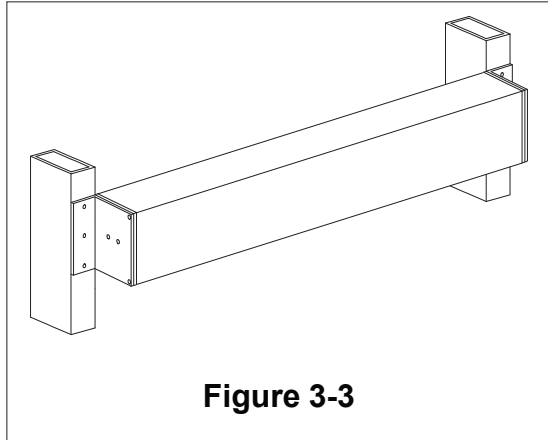

Figure 3-3
- 3d For aluminum storefront or aluminum tube frame, install the header with horizontal mounting brackets to the jams per the instructions supplied with the horizontal mounting brackets (Figure 3-3).